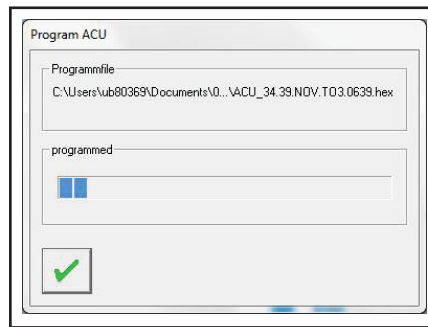

Figure 8 - Typical Progress Window
1.12. A progress window will appear. See Figure 8.